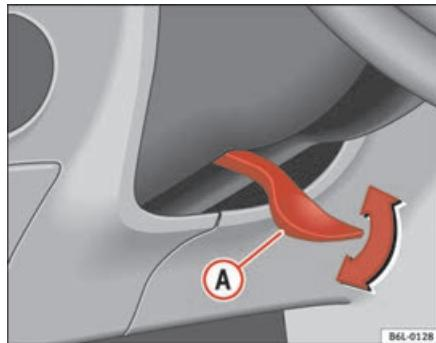

Fig. 97 Adjusting the steering wheel position
- Push down the lever A ⇒ fig. 97 located under the steering column ⇒ !.